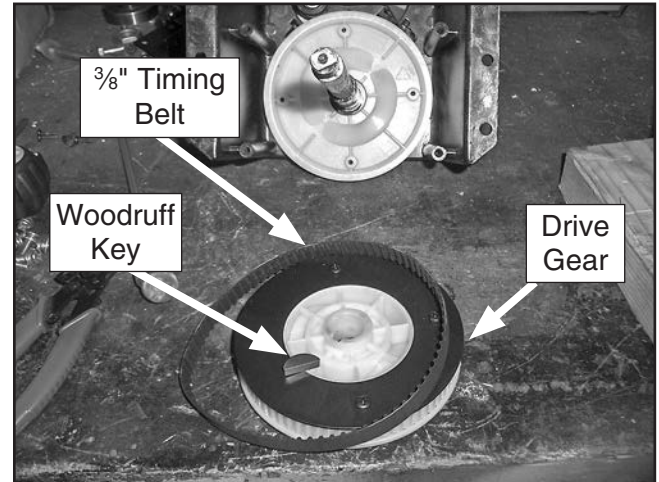

Figure 26. Timing belt and drive gear removed from spindle.
11. Remove $\frac{3}{8}$ " timing belt (#13) and drive gear (#54) assembly (see **Figure 26**) from spindle (#55), and put Woodruff key (#56) in safe place for re-assembly.